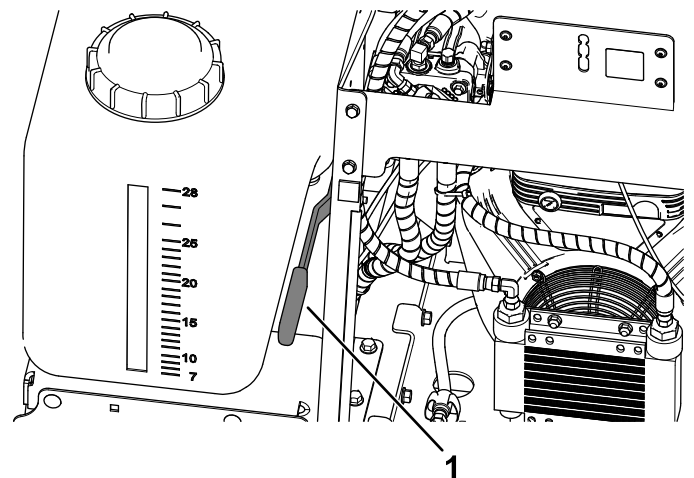

Figure 8
- To engage the parking brake (Figure 8), push the parking-brake lever down.